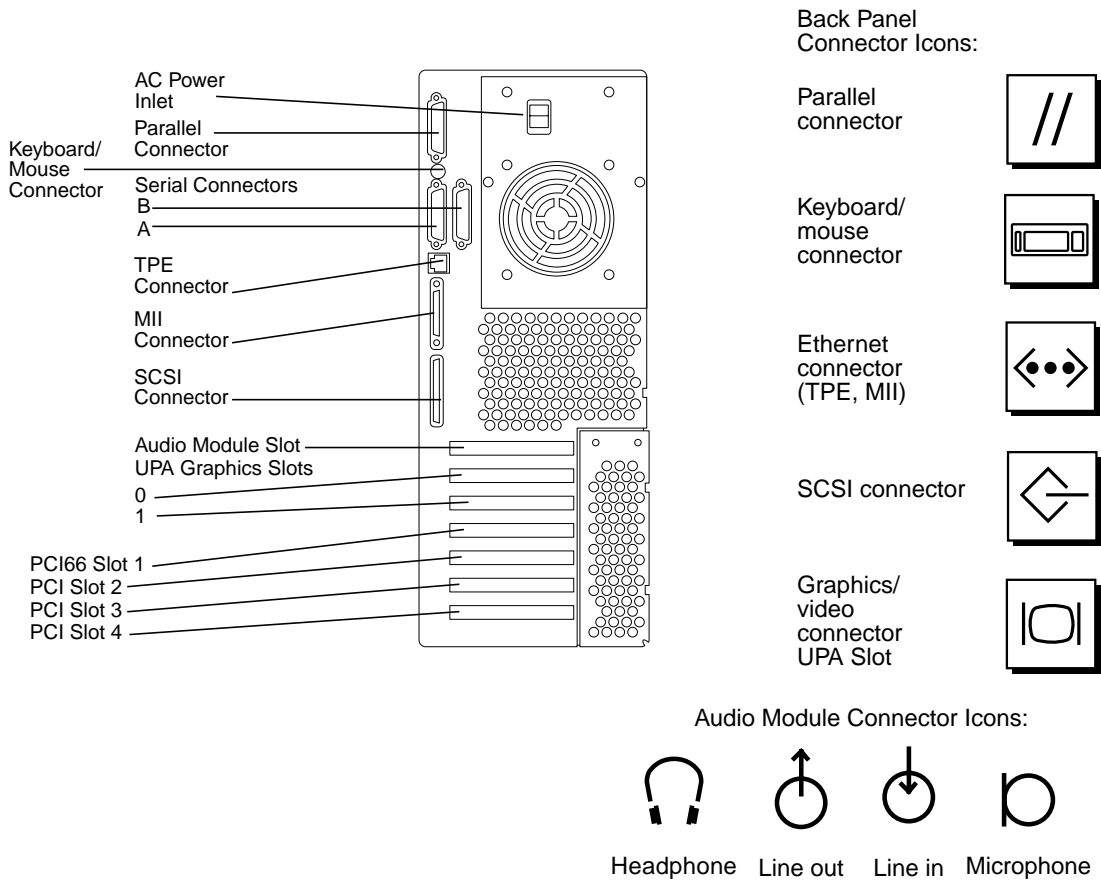

FIGURE 1-1 Back Panel Switches and Connectors
- FIGURE 1-1 Back Panel Switches and Connectors 1-2
Figure 1-1 shows the locations of Ultra 30 system back panel switches and connectors.